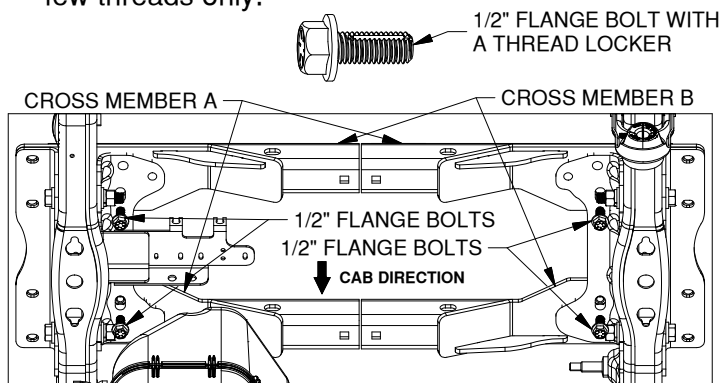

Figure C2: View looking up under the bed.
2. **Place cross members.** Locate the two A and B cross members and the four 1/2" flange bolts with a thread locker. Pass each of the cross members up and over the inside side plates, as shown in Figure C2. Attach each cross member to the inner side plate with the 1/2" flange bolts. Loosely attach the flange bolts by a few threads only.